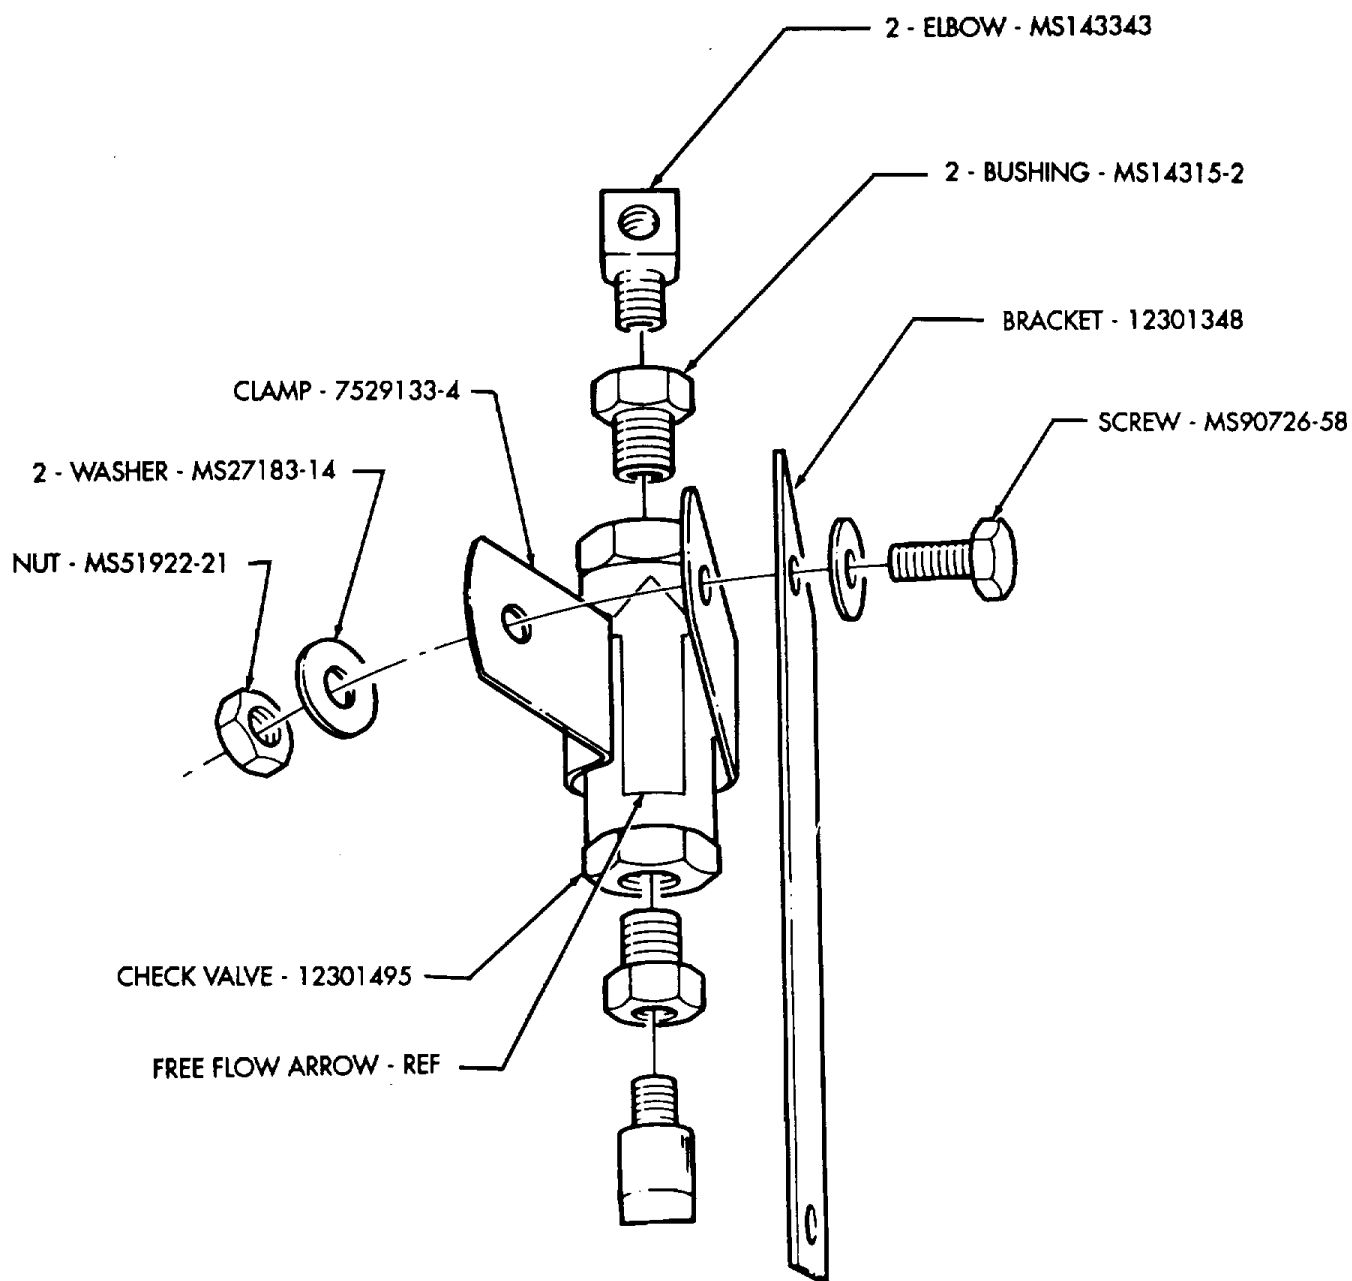

FIGURE 5
- (1) Install two MS14315-2 bushings in 12301495 check valve as shown in figure 5.
- (2) Install two MS143343 elbows on bushing as shown in figure 5.
- (3) Install 7529133-4 clamp on check valve as shown in figure 5.
- (4) Install check valve on 12301348 bracket with MS90726-58 screw, two MS27183-14 washers, and MS51922-21 nut as shown in figure 5. Ensure free flow arrow on check valve points up.
- Perform step (5) for vehicles equipped with single fuel tank.
- Perform steps (6) and (7) for vehicles equipped with dual fuel tanks.